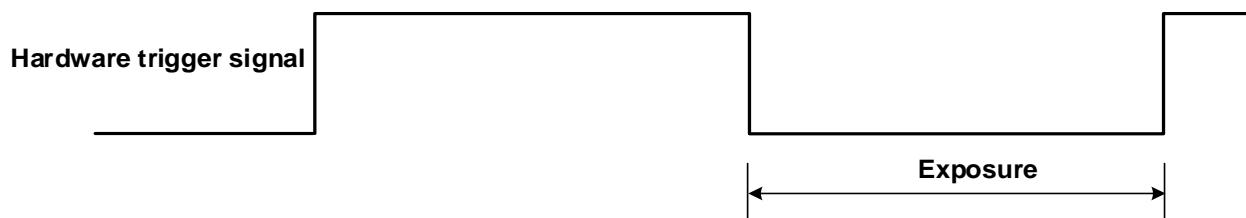

Figure 8-28 The sequence diagram in falling edge trigger of TriggerWidth exposure mode
- If falling edge triggering is enabled, exposure starts when the trigger signal falls and continues until the trigger signal rises, as shown in Figure 8-28